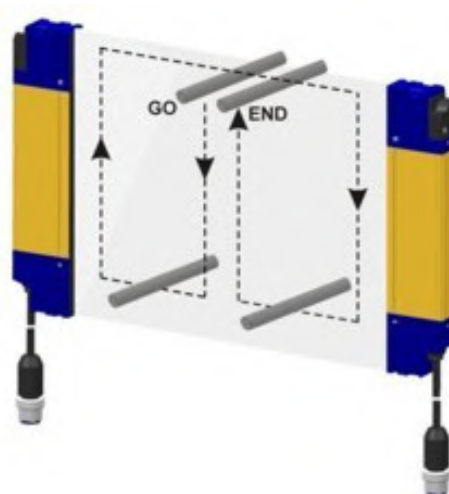

Figure 13 – First installation check with test piece
- The ESPE remains in Safe State (OSSD led lit RED) intercepting the beams along the detection zone using the specific test piece, following the scheme shown in Figure 13 (see "Accessories" on page 51).